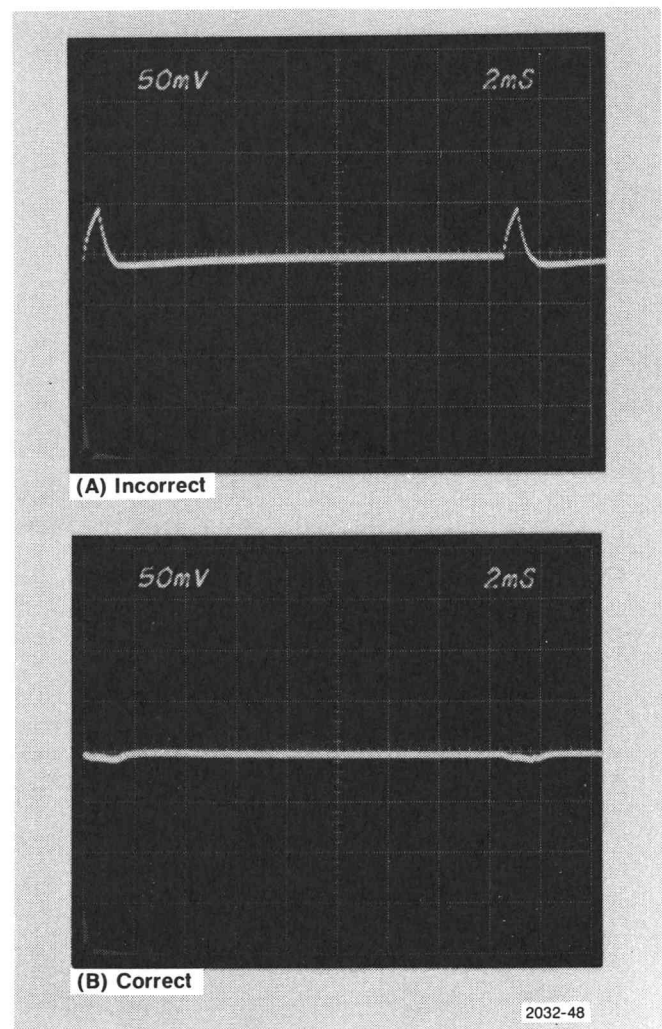

Fig. 5-6. 1420 — DC Balance adjustment.
b. CHECK—that the test oscilloscope display is an essentially straight line (see Fig. 5-6).